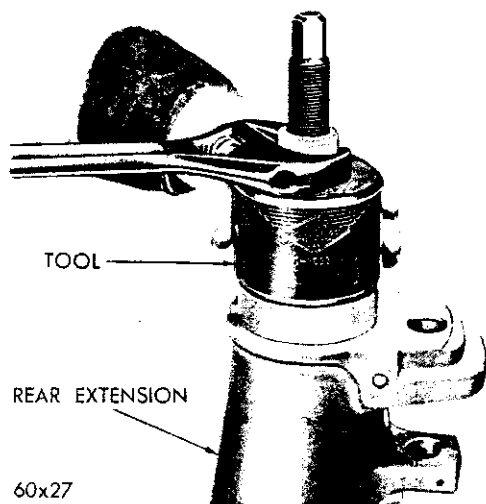

Fig. 28—Burnishing Output Shaft Bushing
(2) While holding the screw of tool (Fig. 28) to prevent turning, turn nut on tool until burnisher is pulled back out of bushing to correctly size bushing. Recheck indexing of lubrication hole in bushing with housing.
(3) Use driver, Tool C-3691, install output shaft oil seal (with metal portion of seal facing down in housing bore) until tool bottoms on extension.
(4) Using a new gasket, slide extension assembly